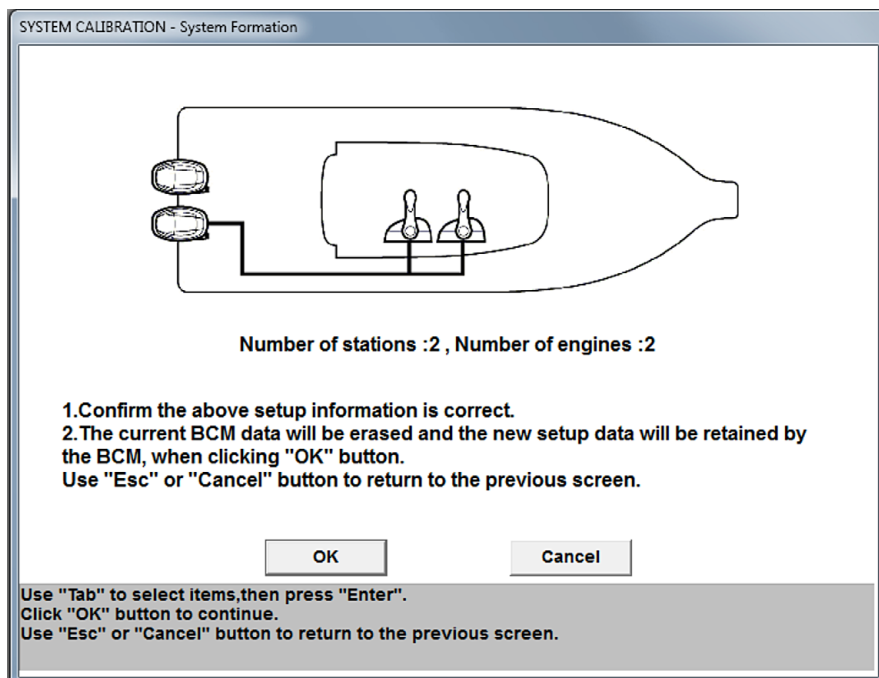

Figure 6-13. System calibration graphical confirmation window.
3. A confirmation window similar to Figure 6-13 will be shown. Ensure the information is correct, then click **OK**. Click **Cancel** to return to the previous screen if you need to make a change.